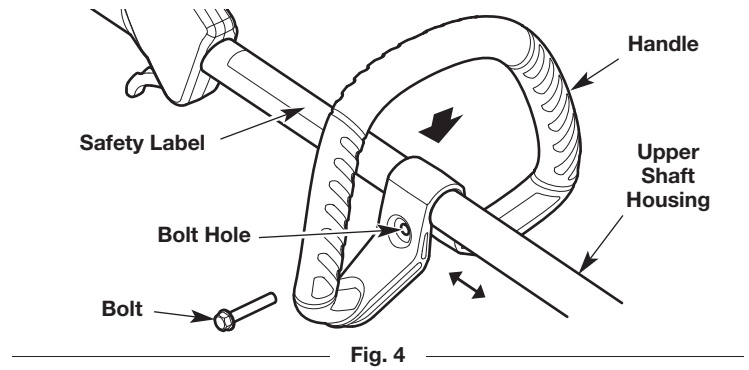

Fig. 4
1. Push the handle down onto the upper shaft housing (Fig. 4). Make sure the bolt hole faces to the right (Fig. 4).
2. Insert the bolt into the bolt hole and push it through (Fig. 4). Tighten the bolt with a flat-head screwdriver, but do not tighten the bolt completely.
3. Hold the unit in the operating position. Move the handle up or down the upper shaft housing to a comfortable location (Fig. 4). Make sure the handle is positioned beyond the end of the safety label (Fig. 4).
1. Loosen the bolt with a flat-head screwdriver (Fig. 4).
2. Hold the unit in the operating position. Move the handle up or down the upper shaft housing to a comfortable location (Fig. 4). Make sure the handle is positioned beyond the end of the safety label (Fig. 4).